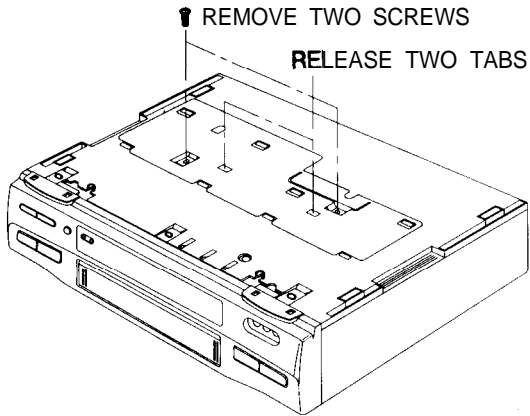
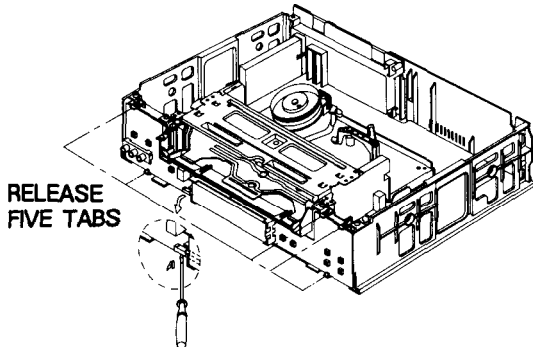

Fig. 1 Bottom Cover Removal
Fig. 4 Function PCB Removal
1. Remove bottom cover and top cabinet (See Fig. 1 to 2).
2. Release three (3) tabs from the bottom of the front panel.
3. Release four (4) tabs from the top of the front panel.
1. Follow the procedures for removing the bottom cover, the top cabinet and the panel front. (See Fig.1 to 3)
2. Release five (5) tabs on the function board.
3. Release connector(CN701) gently with using the Driver as shown Fig. 4
1. Follow the procedures for removing the bottom cover, top cabinet and the front panel ass'y (See Fig.1 to 3)
2. Remove four (4) screws from the bottom and top of the deck ass'y.
3. Remove two (2) screws from the bottom of the frame.
1. Follow the procedures for removing Fig. 1 to 6
2. Release three (3) tabs from the frame.
4. Release connector (CN701) gently with using the Driver as shown Fig. 4
5. Remove screws (④, ⑤, ⑥, ⑦, ⑧) holding the deck and follow the procedures on next page.